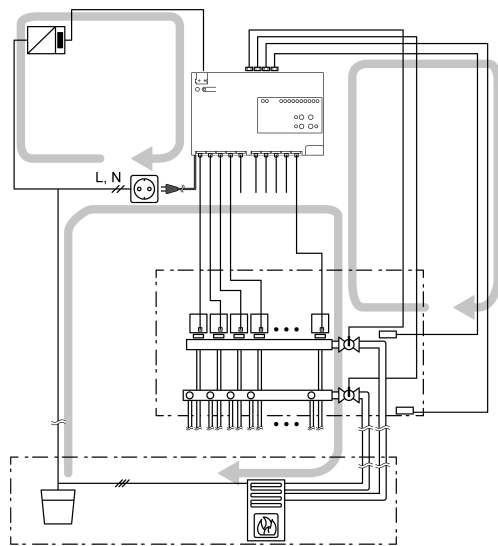

Figure 3: Cable routing - avoid conductor loops!
- When routing the bus, network and sensor cables, do not form any loops with the heating water circuits (Figure 3).